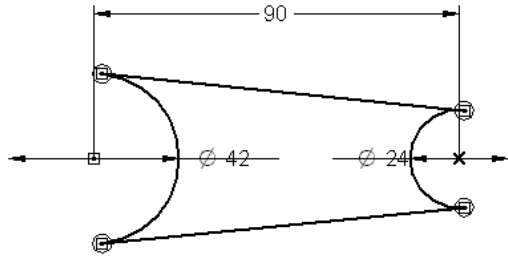

Figure 5-60 Profile for the base feature
3. Add the required relationships and dimensions to the sketch, as shown in Figure 5-60.